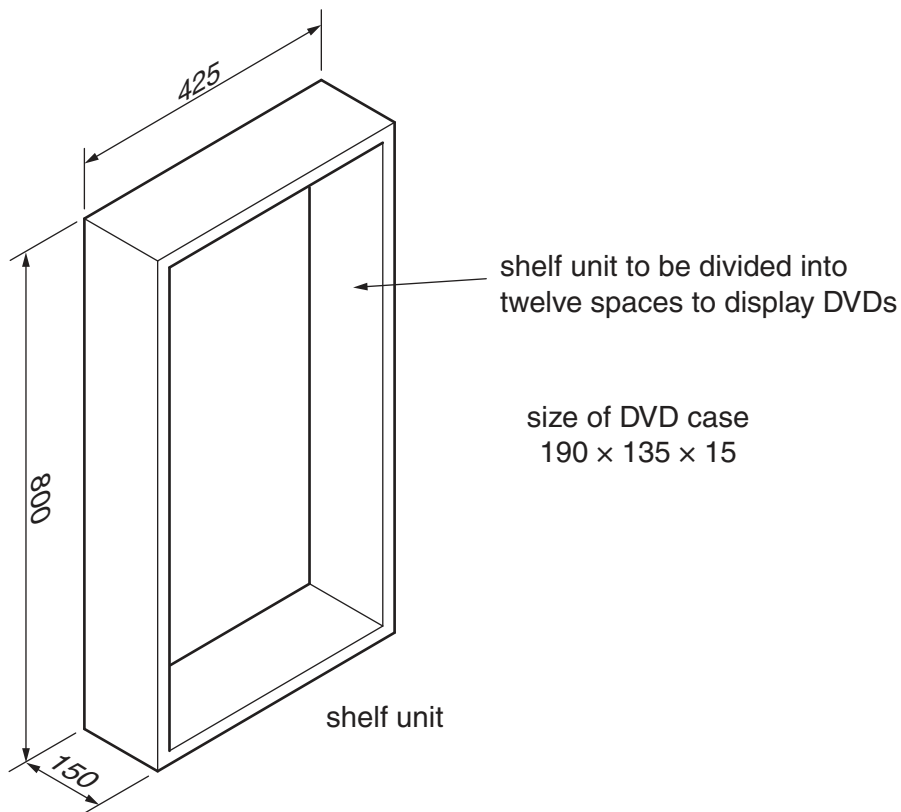

Fig. 8
- 8 Fig. 8 shows an incomplete idea for a free standing display stand to hold DVDs. The stand will be manufactured in flat pack form from 5 mm thick corrugated cardboard.